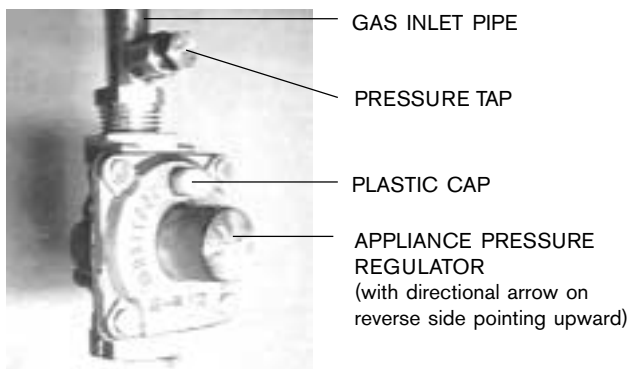

**Fig 5: Side wall exit locations for mechanical draft vent terminals**
**The vent diameter must be 4".** The appliance should be located as close to the point of termination as possible (see Fig. 5 for locating the terminator). The vent system should be as straight and short as possible. The vent pipe must be 4" single wall stainless steel (AL29-4C) or galvanized steel pipe of 26 minimum gauge. **Maximum vent length is 15**
The FXHOOD is design approved with the 425 EF and has a built in back draft flapper to prevent negative air from freezing the 425 EF – see Fig. 5 for restrictions in location of vent terminal.
An approved side wall vent terminal must be used when the water heater is vented through a side wall. Locate in accordance with ANSI Z223.1 and local applicable codes. See Fig 5 for restrictions in location of vent terminal in relation to opening doors and windows, grade, and forced air inlets. Be certain that snow and ice will not interfere with the vent.
The approved vent terminal must be installed so that flue gases will not jeopardize people, overheat combustible structures or enter into buildings, and so that proper clearances are maintained (See Fig 5).